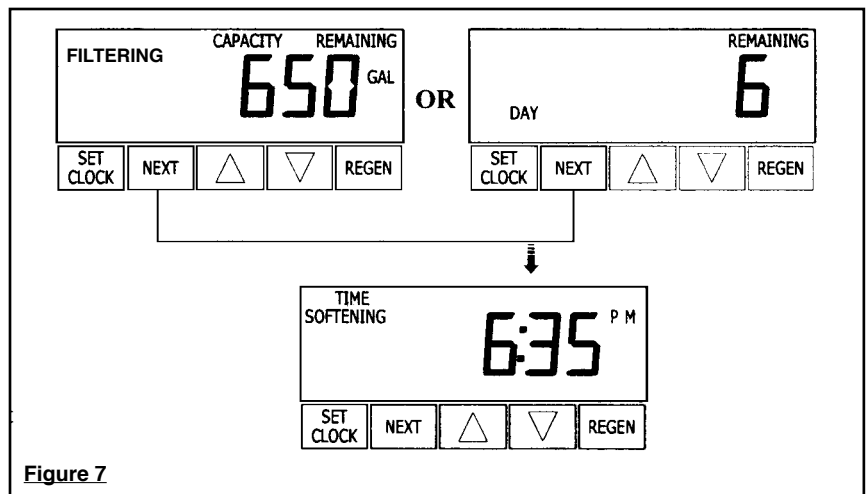

Figure 7
- "oFF" regeneration will be based solely on the day override set (see Installer Display/Settings Fig 7, page 7) or